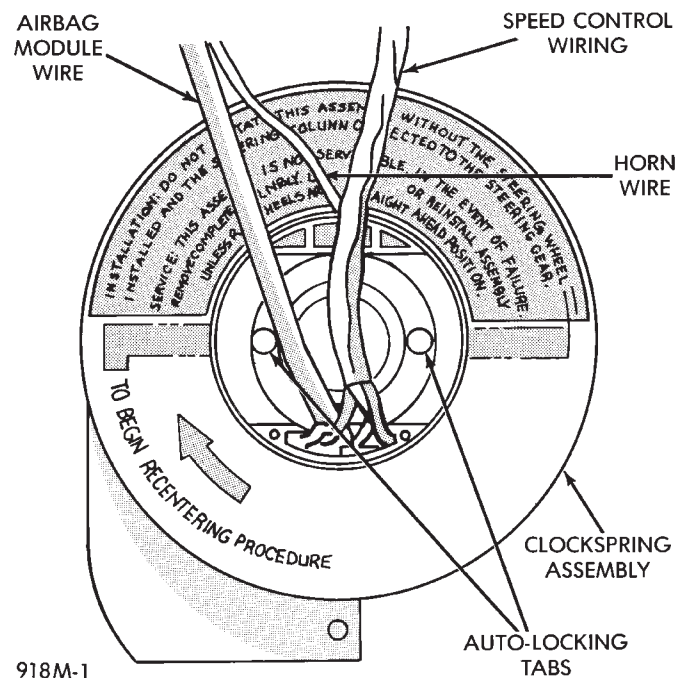

Fig. 10 Clockspring (Auto-Locking)
- (1) Place front wheels in the straight ahead position.
- (2) Wait two minutes for the reserve capacitor to discharge before removing undeployed module.
- (3) Refer to Steering Wheel procedures for removal of air bag module and steering wheel.
- (4) Depress the two plastic locking pins to disengage locking mechanism (Fig. 10).